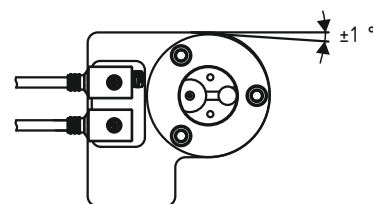

Fig.1. Sensor orientation for monitoring the lower level
- The orientation of the sensor for monitoring the lower level is shown in Fig.1